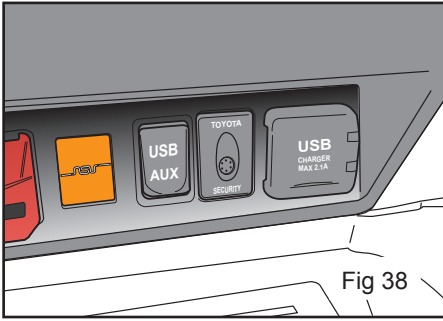

Fig 38
**NSV Has a solution on (Figure 38 & 39)**